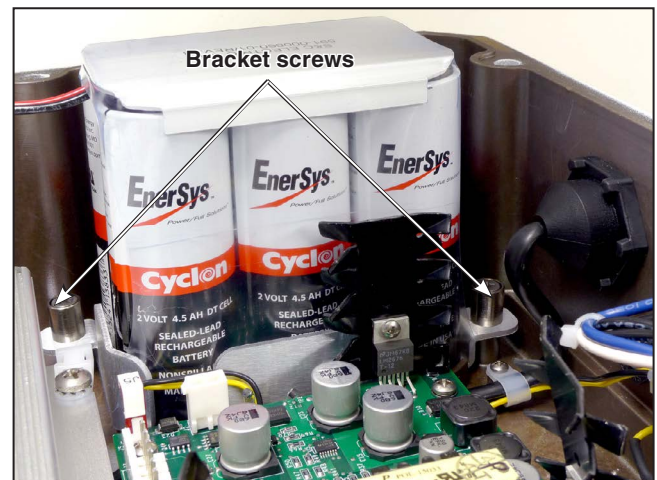

Figure 2. Two screws secure the battery bracket to the enclosure.
- (d) Loosen the two battery bracket screws with a #2 Phillips screwdriver and remove the old battery. See Figure 2.
- (g) Install the new battery and tighten the battery bracket screws. See Figure 2.